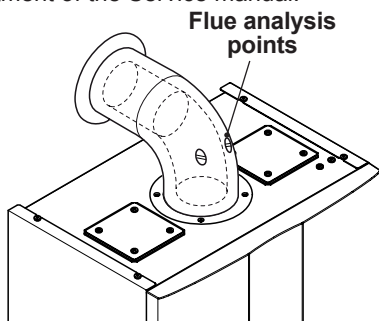

Fig. 9.13
It is recommended that a combustion analysis check is made. Remove the plug as indicated in Fig. 9.13 and carry out combustion analysis check and adjustment if necessary as described in the section Gas valve - Adjustment of the Service manual.
- Check the combustion of the boiler using the outlets located on the flue tubes (Fig. 9.13) and compare the data measured with that following.